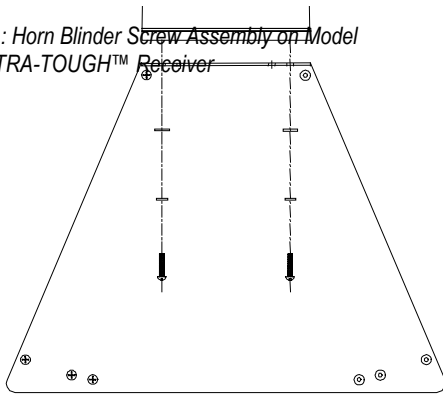

Figure C.6-8: Horn Blinder Screw Assembly on Model 10XR Receiver
- 7) Insert the four mounting screws into the bezel and finger tighten {Figure C.6-8}.